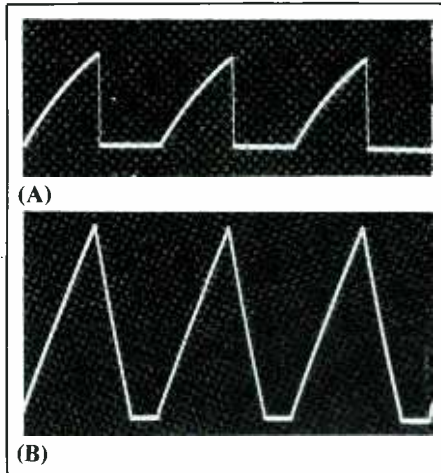

Fig. 8. Results from misadjustment of project's controls: (A) incorrect selection of integrator time constant and (B) wrong adjustment of OFFSET control.
Figure 8 illustrates two misadjustments of the project's front-panel controls. In (A), you see incorrect selection of the integrator's time constant (the value of the feedback capacitor). Selecting a different capacitor with the front-panel switch will correct this defect, unless the pseudo-sawtooth is really the waveform you want.
The result of misadjustment of the OFFSET control is illustrated in Fig. 8(B). In this case, the triangle wave-